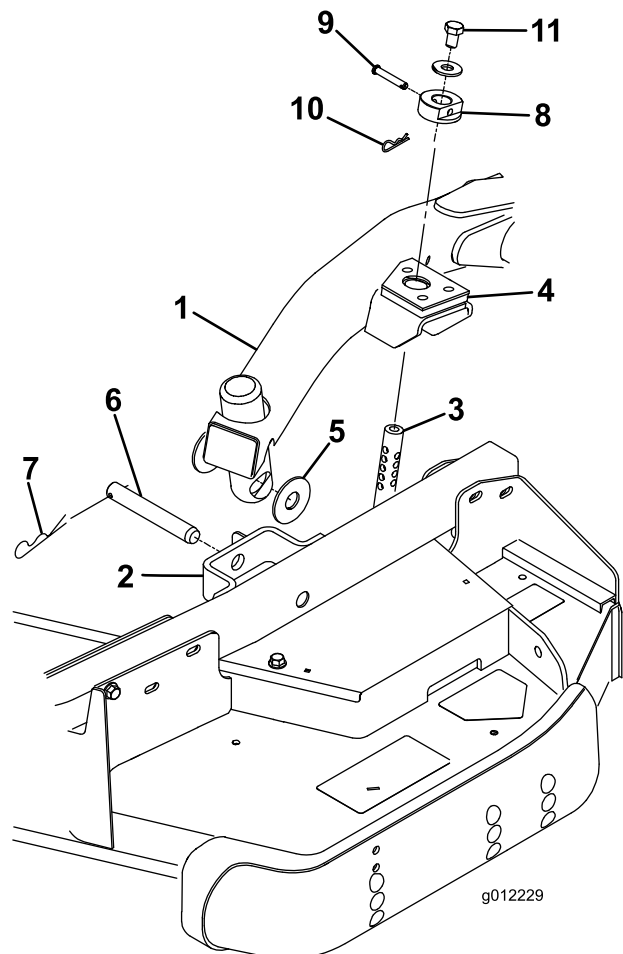

Figure 23
holes in the castor arm bracket and the height of cut rod can be inserted into the lift arm pads (Figure 23).
- Secure the lift arm to the castor arm with (2) thrust washers, a clevis pin and a hair pin cotter. Position the thrust washers between the lift arm and the castor arm bracket (Figure 23). Insert end of cotter pin into the slot in the castor arm tab to retain cotter pin.
- Install the height of cut collars onto the height of cut rods and secure with the clevis pins and hair pin cottes (Figure 23). Head of clevis pin to be positioned toward the front of the deck.
- Install a 1/2 x 3/4 inch bolt and a washer to top of each height of cut rod (Figure 23).